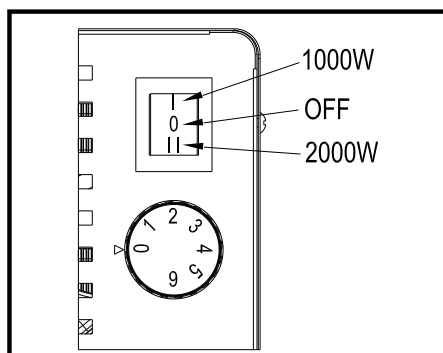

Fig. 2
Make sure the power supply cable has not been damaged. If the supply cord is damaged, it must be replaced by the manufacturer, its service agent or similarly qualified persons in order to avoid a hazard. Moreover, check if the technical parameters of power supply source comply with the requirements specified on the rating plate. Place the appliance in its upright position. Make sure the switch is in its "0" position shown in Fig. 2. Connect the heater to the power supply source.
► 1st degree of heating: Fig. 2, and
► 2nd degree of heating: Fig. 2.